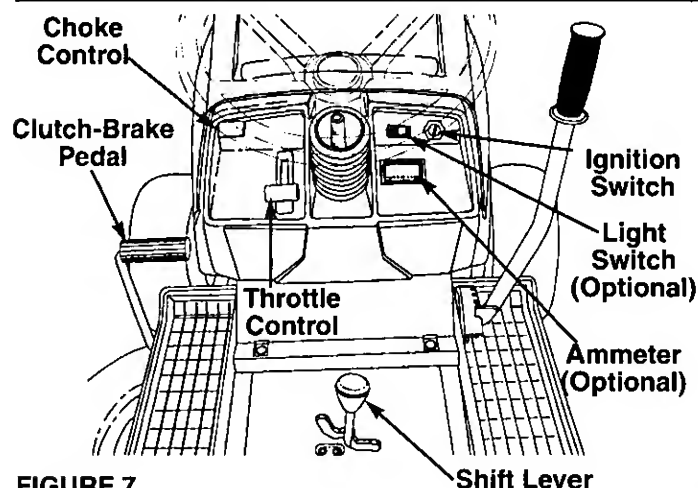

FIGURE 7.
The throttle control is used to regulate the engine speed. To get maximum efficiency from cutting, the throttle should be in the FAST position when operating the mower. See figure 7.
The choke control is located on the dashboard and is operated manually. Details for the choke operation are covered in the separate engine manual packed with your unit. See figure 7.
The engine is started by turning the key to the START position. After the engine starts, let the key return to the ON position. To stop the engine, turn the key to the left to the OFF position and remove it to prevent accidental starting. See figure 7.
The ammeter registers the rate of battery charge or discharge. The ammeter will register on the discharging side when starting the engine. It should register on the opposite side (charging) when the engine is running in the fast position until the battery is completely charged. With a fully charged battery or with the engine idling, the ammeter will not show a charge. See figure 7.
The clutch-brake pedal is located on the left side of the lawn tractor. Depressing the clutch-brake pedal part way disengages the clutch. Pressing the pedal all the way down disengages the clutch and engages the disc brake. See figure 7.
3. Set the throttle control in the FAST position. See figure 7.
5. Turn the ignition key to the START position. When the engine is running, let the key return to the ON position. See figure 7.